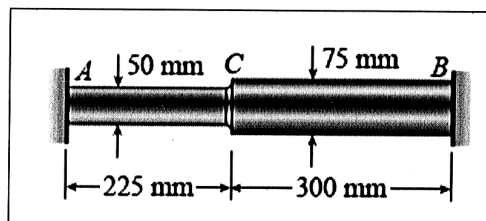

Fig. Q2
**Q2.** A plastic bar  $ACB$  having two different solid circular cross sections is held between rigid supports as shown in the **Fig. Q2**. The diameters in the left- and right-hand parts are  $50 \text{ mm}$  and  $75 \text{ mm}$ , respectively. The corresponding lengths are  $225 \text{ mm}$  and  $300 \text{ mm}$ . Also, the modulus of elasticity  $E$  is  $6.0$  GPa, and the coefficient of thermal expansion  $\alpha$  is  $100 \times 10^{-6}/^\circ\text{C}$ . The bar is subjected to a uniform temperature increase of  $30^\circ\text{C}$ . Calculate (i) the compressive force in the bar; (ii) the maximum compressive stress and (iii) the displacement of point  $C$ .